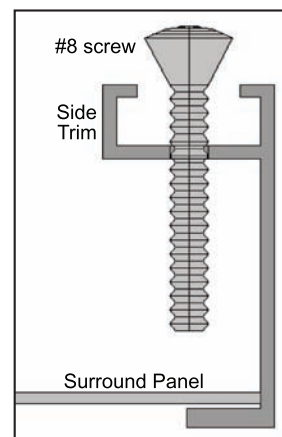

Figure 29: Screw to hold the trim against the surround.
2. Slide the two (2) attached trim pieces onto the surround panel.
5. On the side trims there are holes 2" (50 mm) from either end. Using a Phillips screwdriver, place a #8 screw 1 1/4" long in each hole and tighten (refer to Figure 29). This will keep the trim tight against the surround.